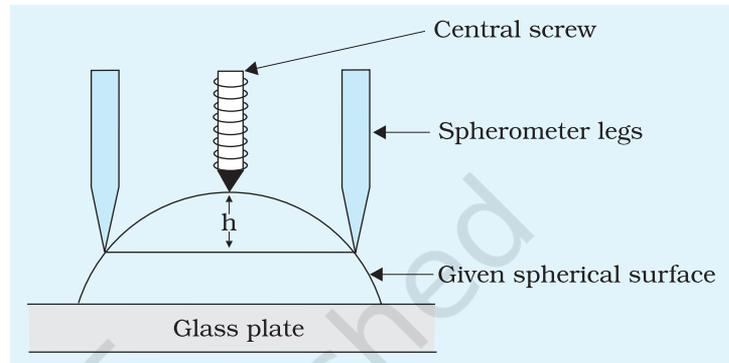

Fig.E 3.4: Measurement of sagitta h
5. Place the given spherical surface on the plane glass plate and then place the spherometer on it by raising or lowering the central screw sufficiently upwards or downwards so that the three spherometer legs may rest on the spherical surface (Fig. E 3.4).